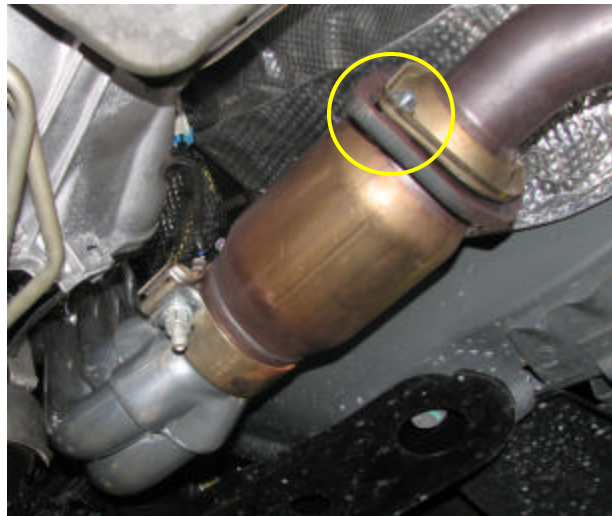

Figure 10: Re-assembled exhaust
32. Next, using the supplied exhaust nuts/bolts, bolt together the CAT-back pipes to the ball joint on the CATs. Do not tighten completely. The order of the hardware should be bolt, washer, CAT flange, flange, washer, lock washer, and nut. See Figure 10.